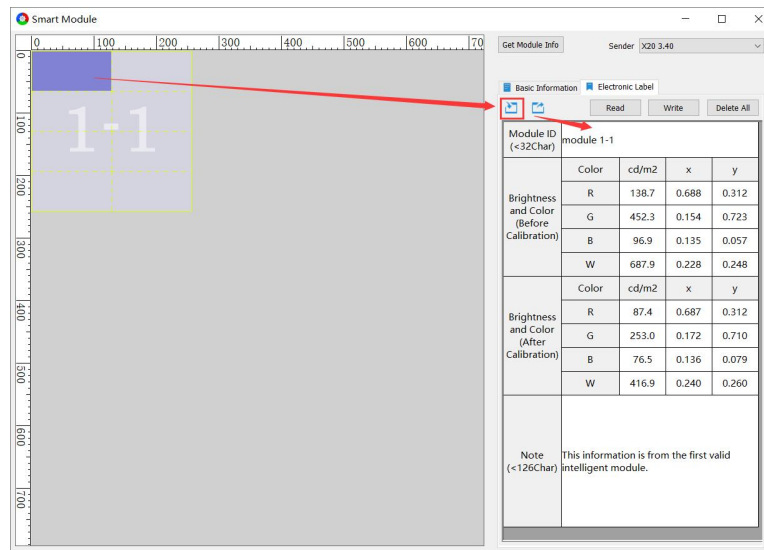

Fig 11.3.2 Import electronic labels
Step 2: Click the **Import** icon above the table or enter the label information directly in the table, as shown in Fig 11.3.2.